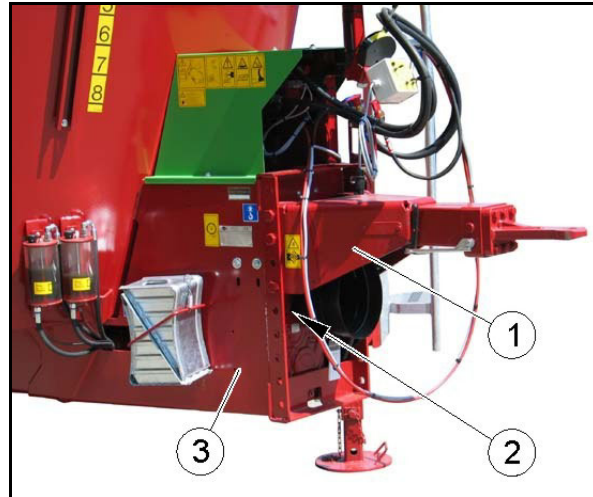

Fig. 50
Within the adjustable range of the positioning holes (2), the drawbar (1) can be screwed on at different levels compared to the chassis (3) (Fig. 50).